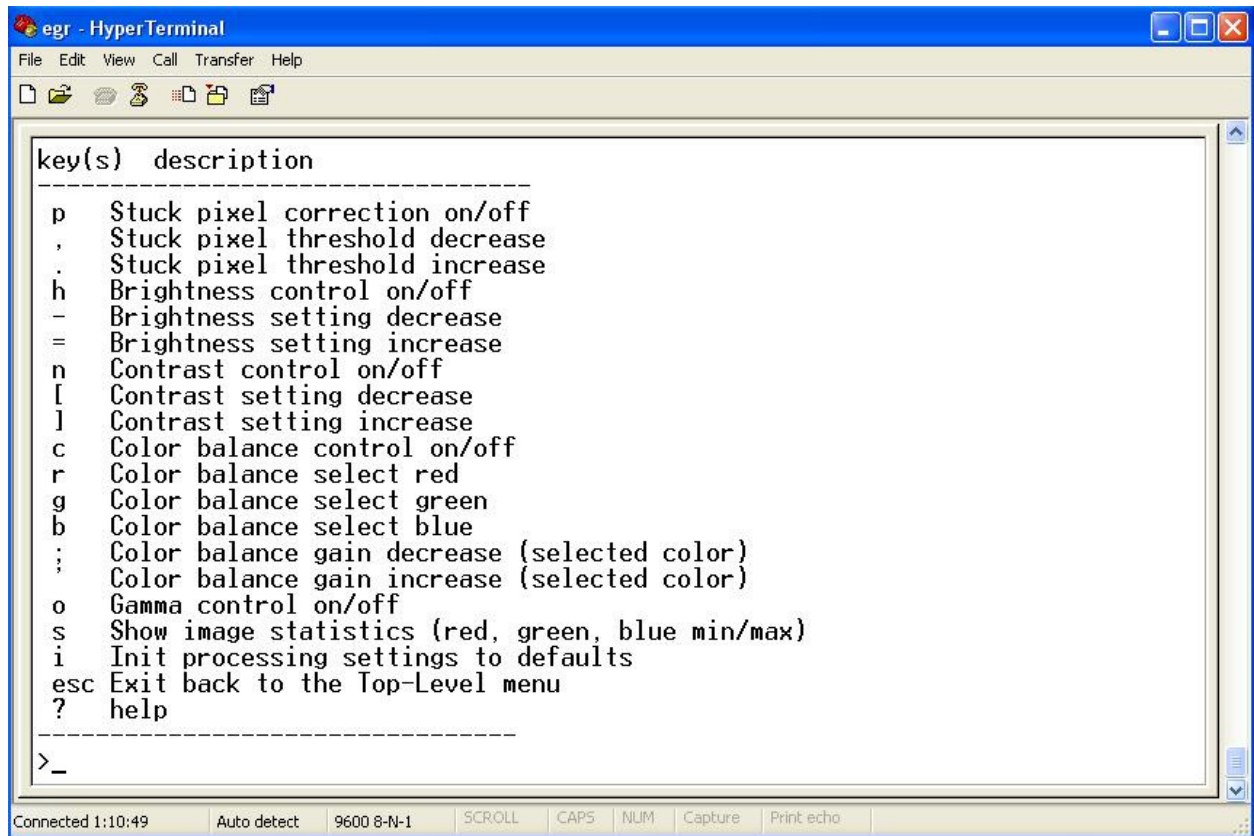

Figure 13: Camera Buffer Demo Processing Menu
- Next, hit “p” to enter the processing menu (as shown below in Figure 13).